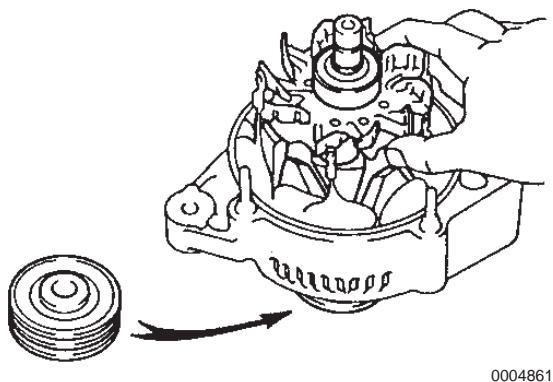

Figure 11-35
1. Install the rotor assembly into the drive end frame and install the pulley to the shaft (Figure 11-35).